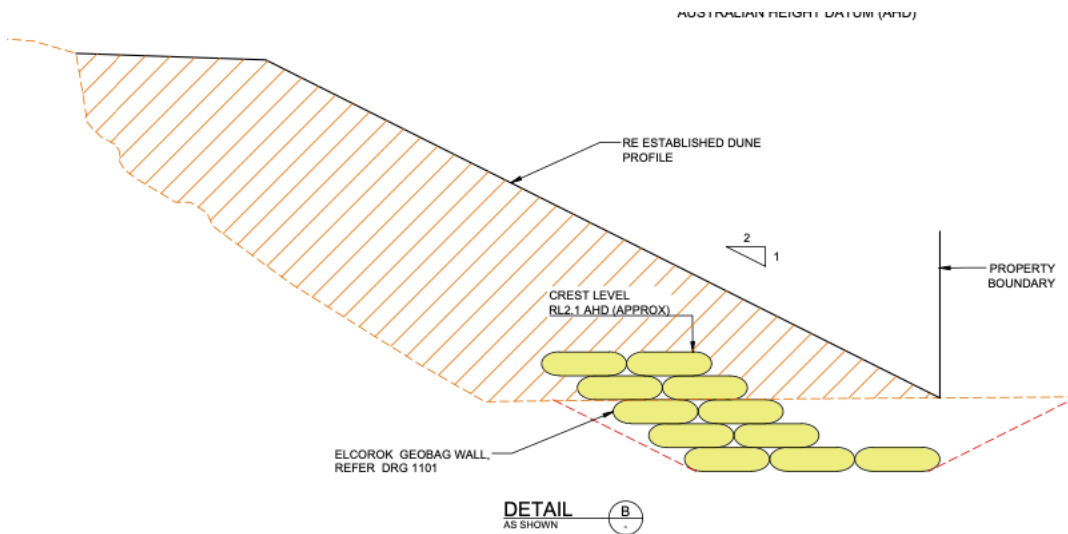

Figure 3. Seawall buried into dune
- Where seawall is exposed, backfill using stockpiled sand from footing to achieve a safe profile of 1v:2h, sloping landward from the property boundary. (Figure 3)
- Where seawall footprint was previously buried under existing dune is to be re established. (Figure 3)